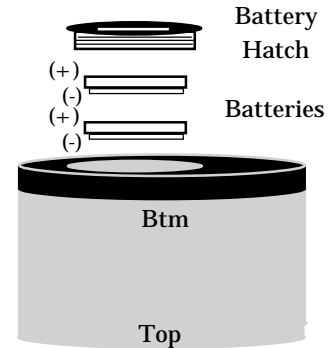

Fig. 76 - Installing Batteries
- Install two new 3 volt lithium batteries (Duracell® DL2032, Radio Shack® 23-162, Maxell® CR2032, Panasonic® CR2032, or equivalent) into the battery compartment with the positive (+) side facing up (out of the battery compartment), with one directly on top of the other (Fig. 76). Avoid touching either the battery contacts or the flat surfaces of the batteries, as skin oil